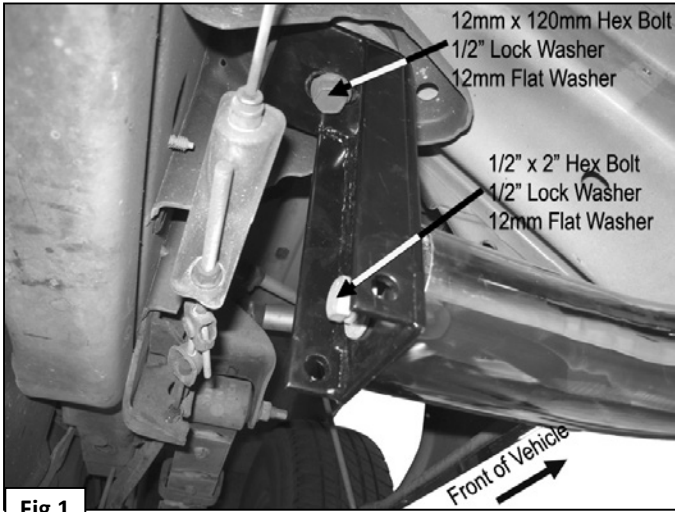

Fig 1
4. Partially attach front and rear Mounting Brackets from body mounts using the included (2) 12mm x 120mm Hex Head Bolts, (2) ½" Lock Washers, and (2) 12mm Flat Washers **(Figure 1 & 2)**. **NOTE:** Shorter Mounting Brackets mount toward the front of the vehicle, longer Mounting Brackets mount toward the rear.
5. Position Driver Sidebar up to Mounting Brackets, and attach it using the included (2) ½" x 2" Hex Head Bolts, (2) ½" Lock Washers, and (2) 12mm Flat Washers **(Figure 1 & 2)**. Tighten all hardware at this time.